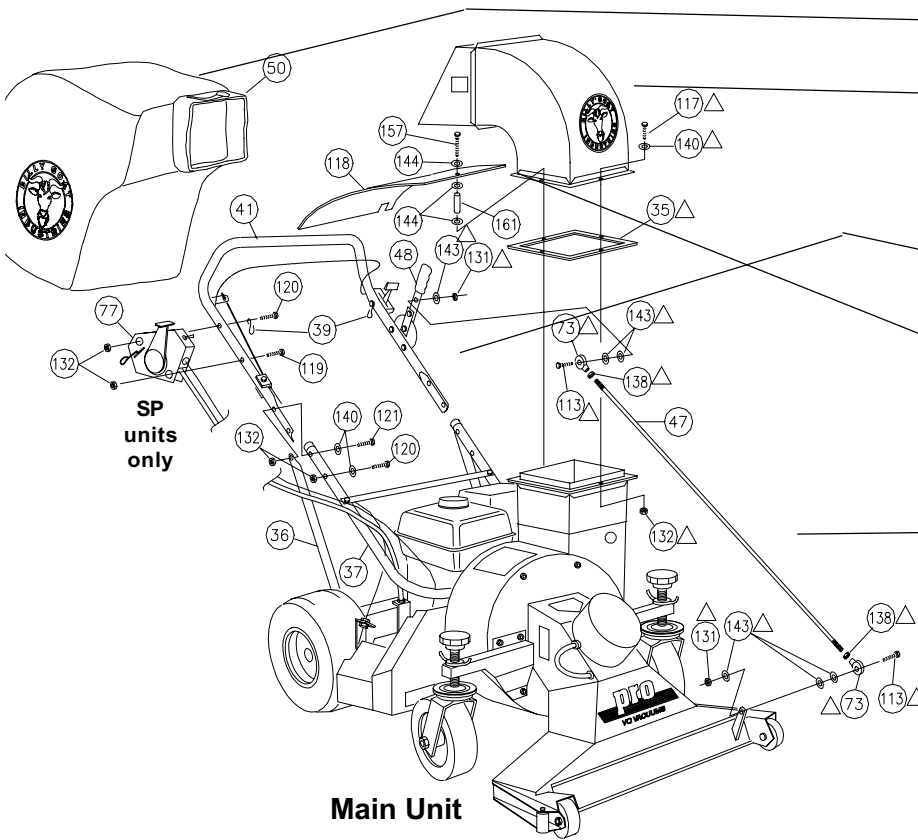
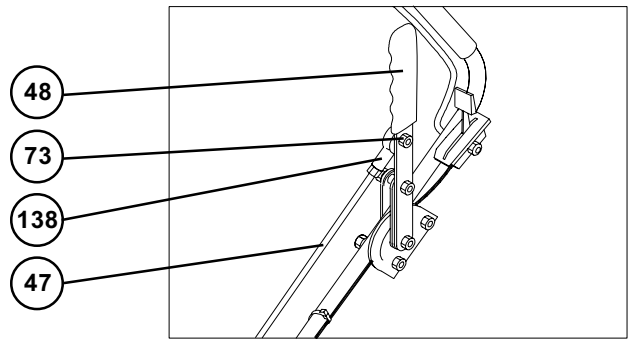

Fig. 5
Fig. 1
1. UPPER HANDLE (item 41). Assemble securely to lower handle stubs (item 37) and handle brace (item 36), using screws (item 120 & 121), so that screw heads are on inside of handle. Otherwise, premature bag wear could result.
2. NOZZLE DOOR CONTROLS. Assemble ball joints (item 73), jam nuts (item 138), to both ends of rod (item 47). *Do not fully tighten jam nuts.*
Using screw (item 113), washer (item 143) and lock nut (item 131), connect one end of rod (item 47) to nozzle door mounting. (See Figure 5). Using rod, pull nozzle door open horizontal to ground and hold opposite end of rod next to mounting hole on remote lever (item 48), already assembled onto upper handle. (See Figure 1). If necessary, adjust rod length using threads provided on rod. Adjust rod length to give a minimum of 1.0" (25.4 mm) hand clearance between lever & maximum forward throttle position when door is open. Assemble upper end of rod to lever on handle using same hardware item numbers as shown above. (See figure 1 & 2). Tighten jam nuts.